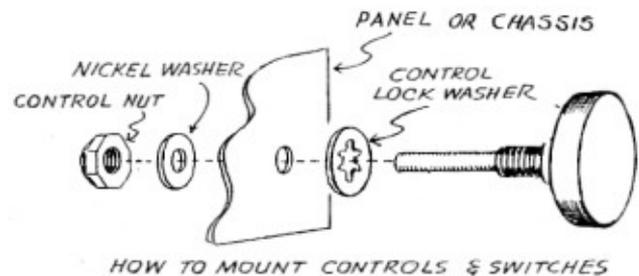

Fig. 2
- ( ) 5. Position the 5K control, H, as shown. Use a lockwasher between chassis and the control bushing as shown in Figure 2. Use no nickel washer for this control.
- ( ) 17. The panel may now be assembled to the chassis. Stand the chassis on its rear apron. Lay the panel on the front apron and align the holes. Insert the 100K ohm voltage output control, with a control lockwasher on its bushing, through the left hand hole. Add a flat nickel washer and nut, but do not tighten. (See Fig. 2)